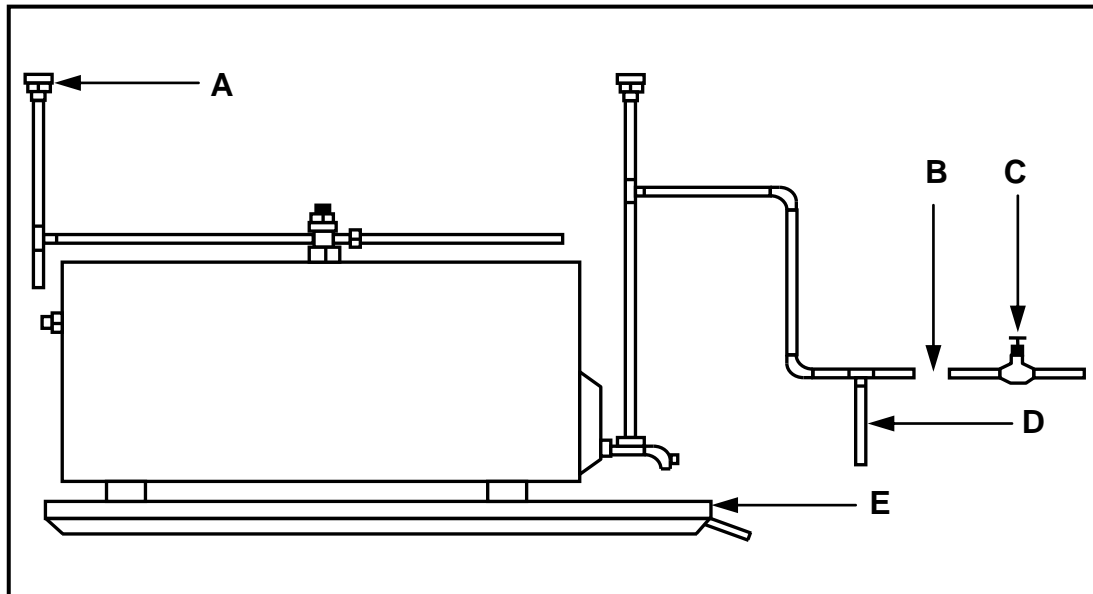

FIGURE 4.7
4.7 FIGURE 4.7 below shows a drawing of a high-pressure geyser installation. Study the drawing and answer the questions that follow.